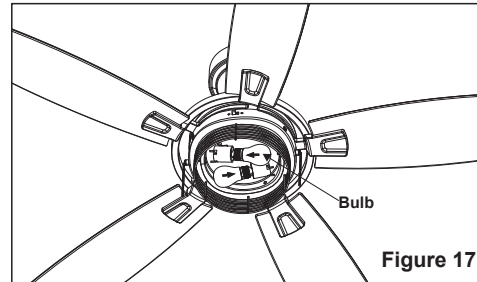

Figure 17
Step 10. Insert two MAXIMUM 6W E26 LED bulbs (included) into lamp holders. Dry your hands before installing bulbs. Keeping the bulbs clean is important as useful lifetime of a dirty bulb could be shorter than a clean bulb. (Figure 17)